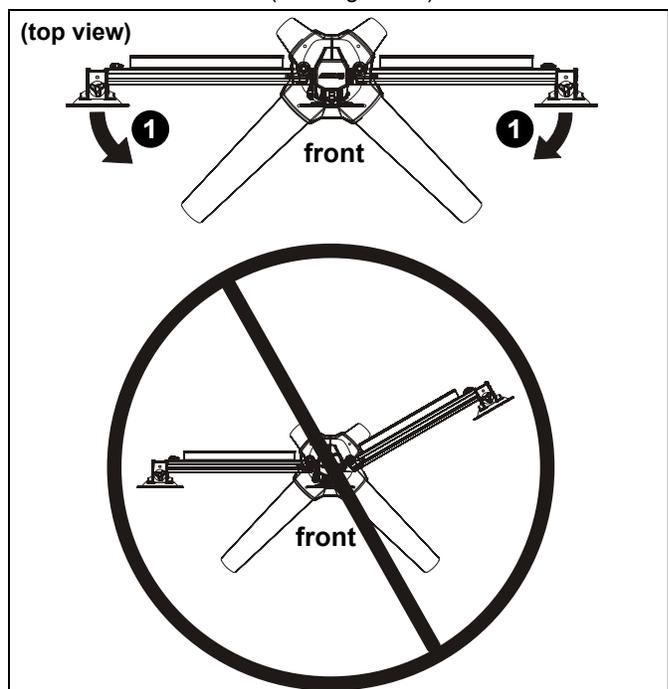

Figure 20
1. Array arms may pivot toward the front of mount up to 15° per arm. (See Figure 20)
**WARNING:** Pivoting array arms toward the back of mount may cause K3 Series mount to tip over causing serious personal injury or damage to equipment! Do not pivot arms toward back of mount! (See Figure 20)